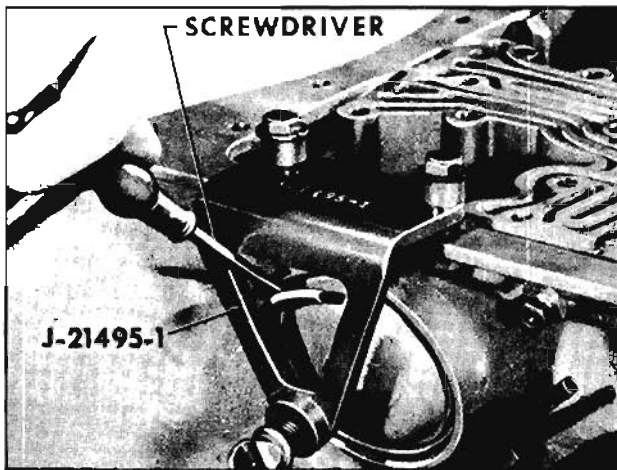

Fig. 6-432 Installing Snap Ring
4. Compress low servo cover with J-21495-1 and install retaining snap ring. (Fig. 6-432)